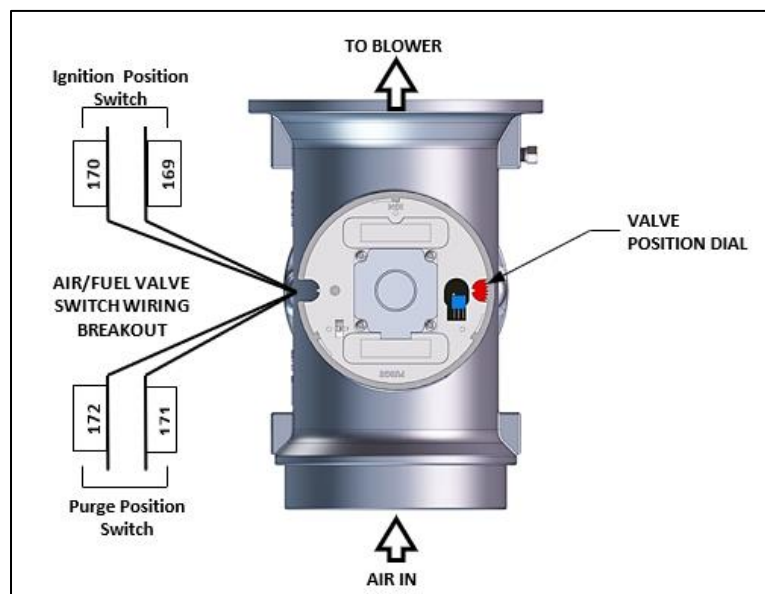

Figure 5-8: Air/Fuel Purge and Ignition Locations
- b) When the Controller enters ignition phase, it shows **Ignition Trial**. Attach the alligator clip (Figure 5-8) to any metal surface or ground. The Controller displays **Flame Proven** and begins to ramp up to 100% fire rate. Note that no gas or flame is present at this time.